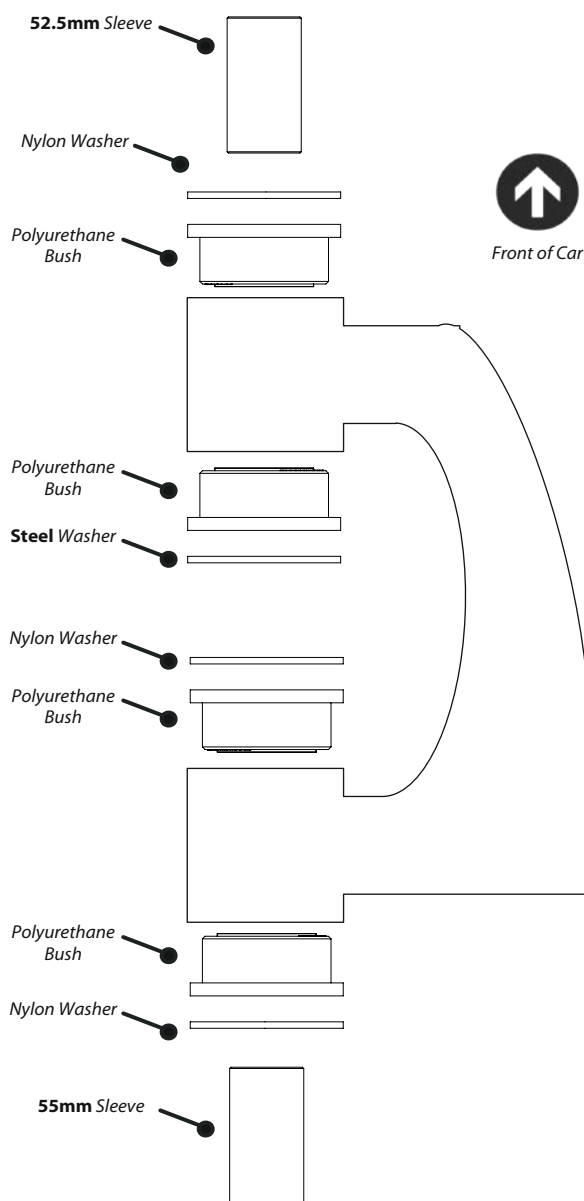

Figure 1
4. Push the Polyurethane bushes into place in the wishbone bores. (Figure 1)
6. Push the 52.5mm long sleeve into the front bush and the 55mm long sleeve into the rear bush (Figure 1)
7. Using a small amount of grease, attach the steel washer to the inside face of the front bush as in Figure 1.
8. Using a small amount of grease, attach the nylon washers around the metal sleeves to the other locations shown in Figure 1.